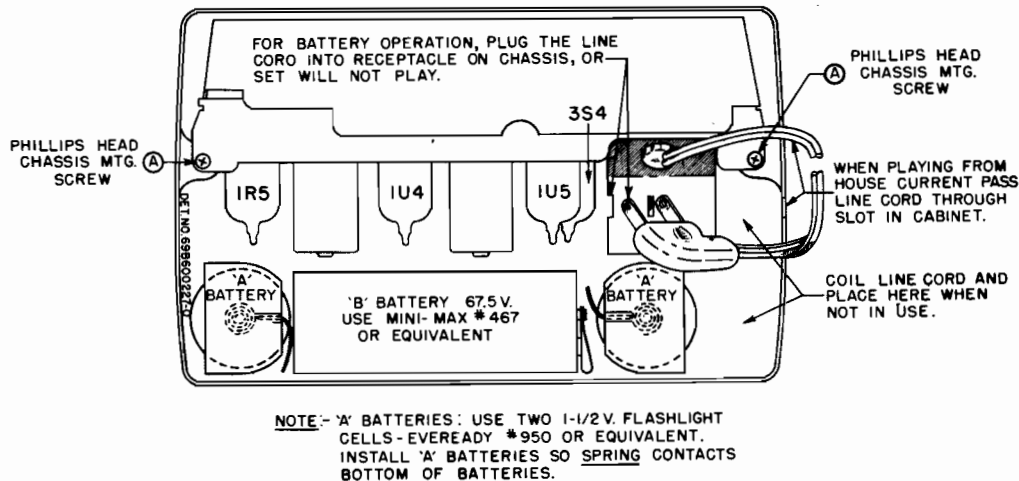

FIGURE 1. BATTERY INSTALLATION & CHASSIS REMOVAL INSTRUCTIONS
BATTERY OPERATION. Open the back cover and install the batteries, following the instructions on the label inside the back cover (or see Figure 1). Insert the line cord plug into the receptacle on the chassis, or the receiver will not play from
AC or DC. Complete battery replacement instructions will be found inside the cabinet back cover (or See Figure 1).
3. Remove the two Phillips head screws holding the chassis to the cabinet ("A" - "A" in Figure 1).